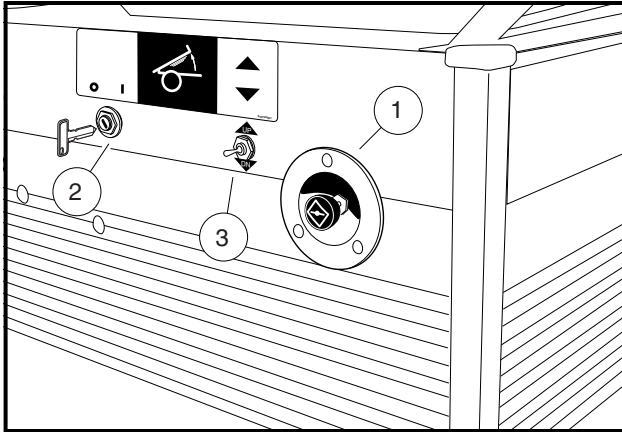

Figure 8 Choke and Bed Lift
The choke (1) is located on the seat support panel below and to the left of the driver's left knee. If the vehicle is hard to start in cool or cold temperatures, activate choke: press the accelerator pedal halfway to the floor, then pull the choke handle out to activate. Release the handle when the engine begins to run smoothly (**Figure 8**).
The electric bed lift switch is located on the seat support panel, to the left of the choke (**Figure 8**). The bed lift is equipped with a key switch that locks the lift switch, minimizing unauthorized access to moving parts of the engine compartment.